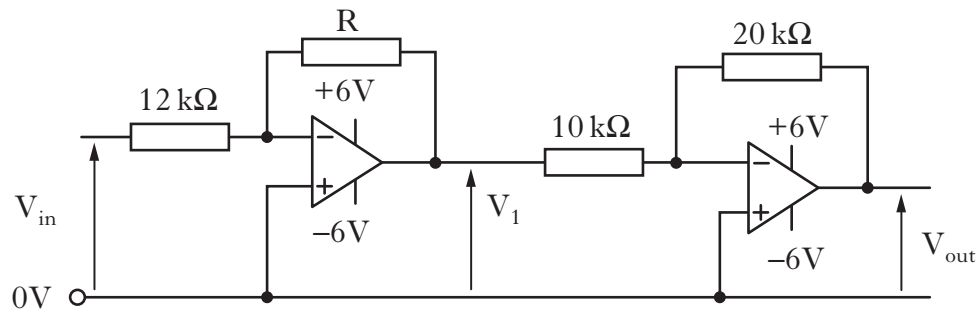

Figure Q8
8. The circuit shown in Figure Q8 is used to amplify the signal produced by a flow sensor in part of a chemical plant.
- (a) (i) State the name of the op-amp configuration used in the circuit shown in Figure Q8. 1
- (11)**